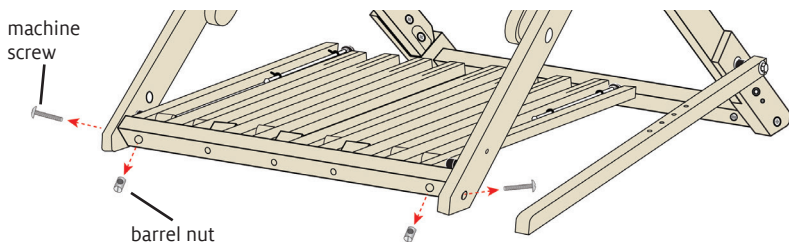

FIGURE 7: REMOVE THE TREADLE ASSEMBLY
13. Remove the treadle assembly from the inside legs by unscrewing the machine screws from the barrel nuts, as shown in Figure 7. Spread the inside legs apart and remove the treadle support. Set aside the barrel nuts for step 20.